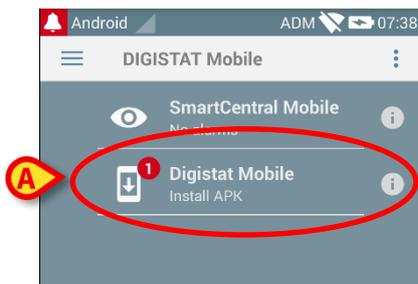

Fig 136
- Touch the row indicated in Fig 136 **A**.